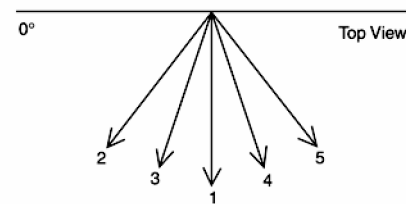

Figure 2
- 2 Manual horizontal airflow direction can be set using remote control; the angles of the vane are as stated below and the positions of the vane are as Figure 2 above.